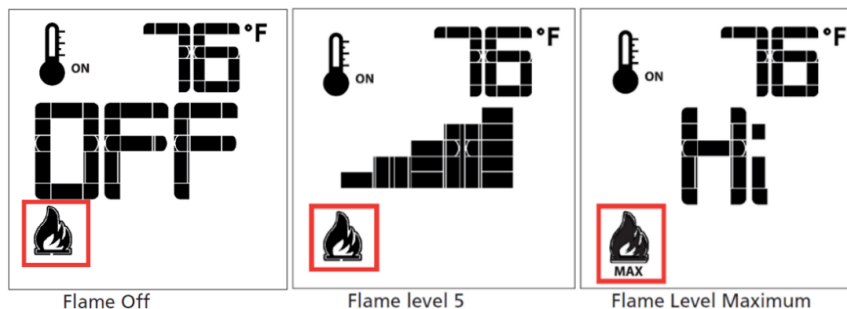

FIGURE 49
The system has six (6) flame levels. See (**Figure 49**) for an example. With the system on, and the flame level at the maximum in the appliance, pressing the Down Arrow Key once will reduce the flame height by one step until the flame is turned off. The Up-Arrow Key will increase the flame height each time it is pressed. If the Up Arrow Key is pressed while the system is on, but the flame is off, the flame will come on in the high position (**Figure 49**). A single “beep” will confirm reception of the command.